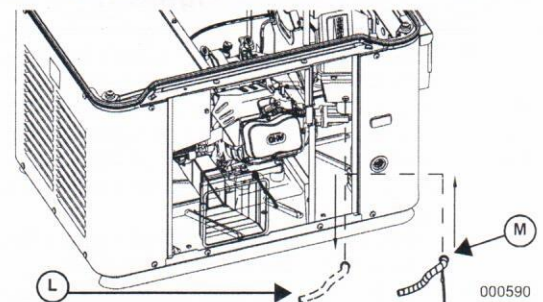

Figure 4.
10. Replace breather (L) with new heated breather (M) from kit. Route breather through grommet in engine divider panel. (See Figure 4).